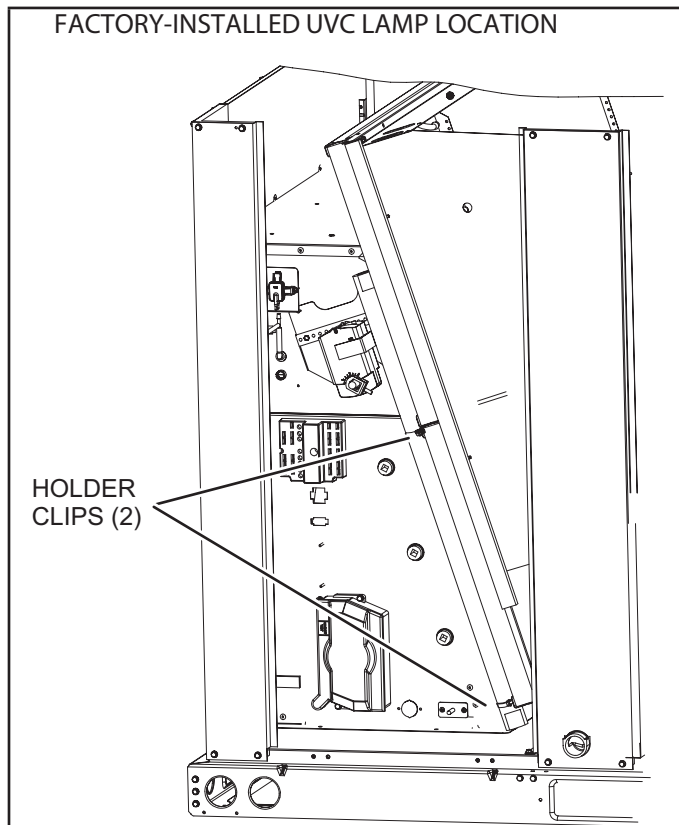

FIGURE 40
- 1 - Cut wire ties and remove the UVC lamp attached to the filter rack. See FIGURE 40.